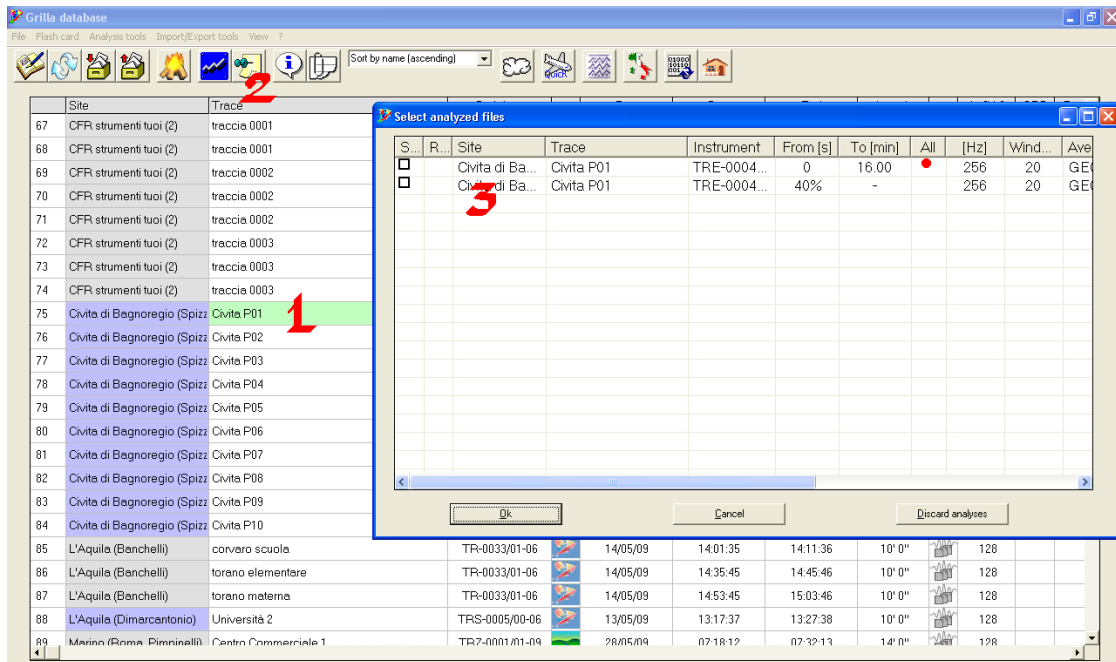

Figure 8.
**FRAMING THE H/V PEAKS WITHIN THE SESAME (2005) SIGNIFICANCE TABLES.** After analyzing a file, select it as shown in Figure 8 step (1), then press the key (2). A window will open, summarizing all the analyses which have been performed on that specific file. Double clicking on the row of which you want to create a report, the Word™ document of which will automatically open.